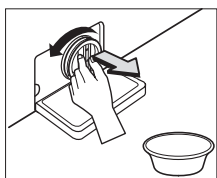

Fig. 13
- Turn knob to the left.(Fig.13)